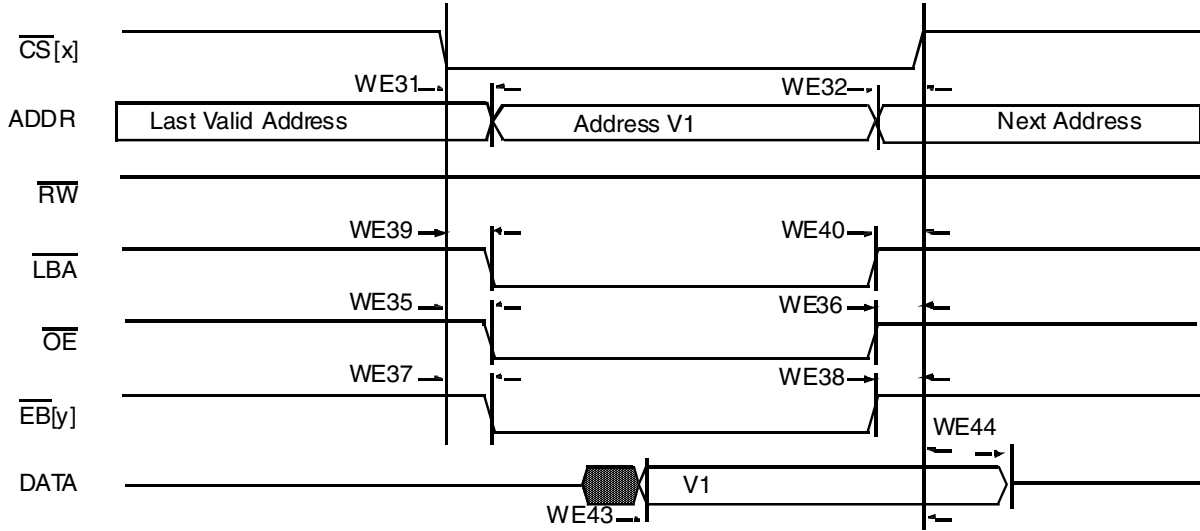
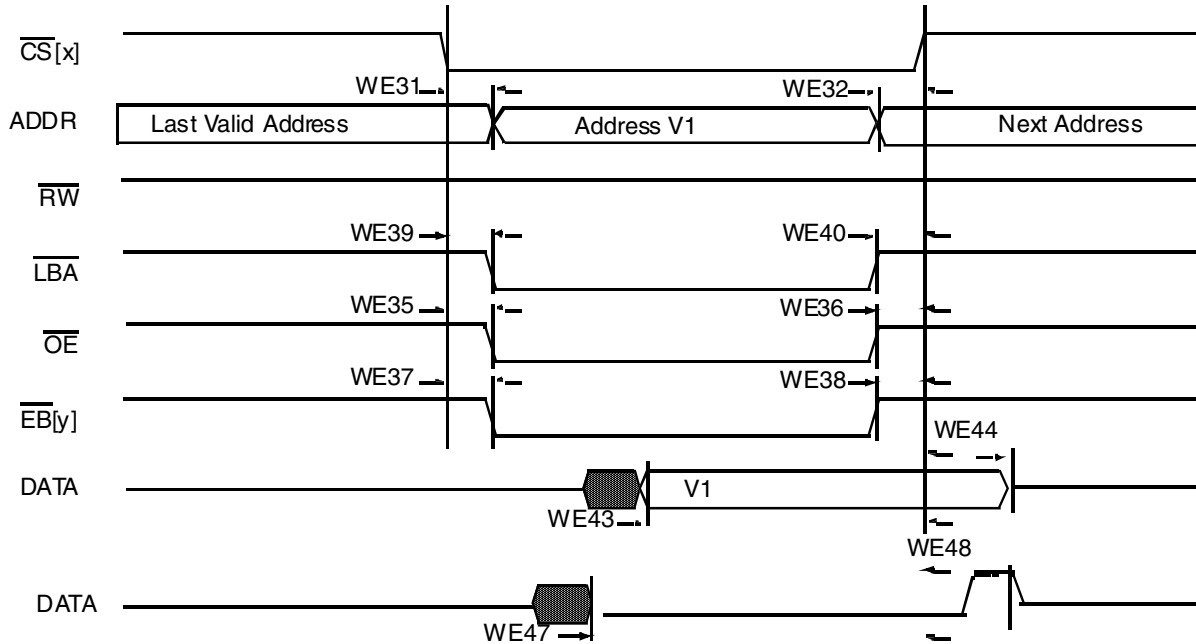

Figure 45. Asynchronous Memory Read Access
Figure 49. DTACK Read Access
Figure 45 through Figure 49, and Table 53 help to determine timing parameters relative chip select (CS) state for asynchronous and DTACK WEIM accesses with corresponding WEIM bit fields and the timing parameters mentioned above.